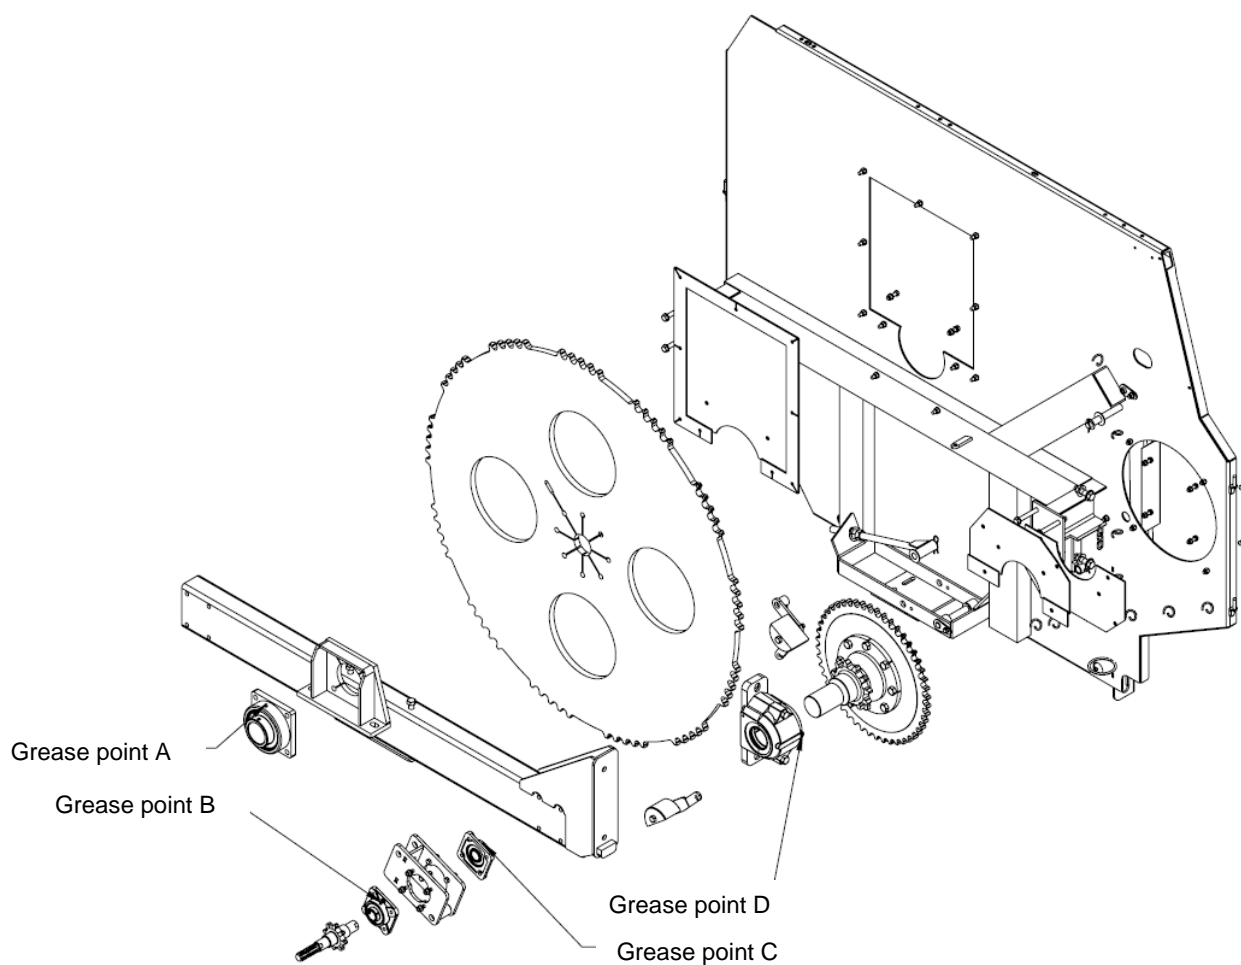

Figure 12: Front grease points
- The main rotor bearing at the front of the KEENAN MechFiber (A, Figure 12).
- Two main bearings on the front and rear of the input drive shaft (B and C, Figure 12).
- The auger bearing at the front of the KEENAN MechFiber (D, Figure 12)